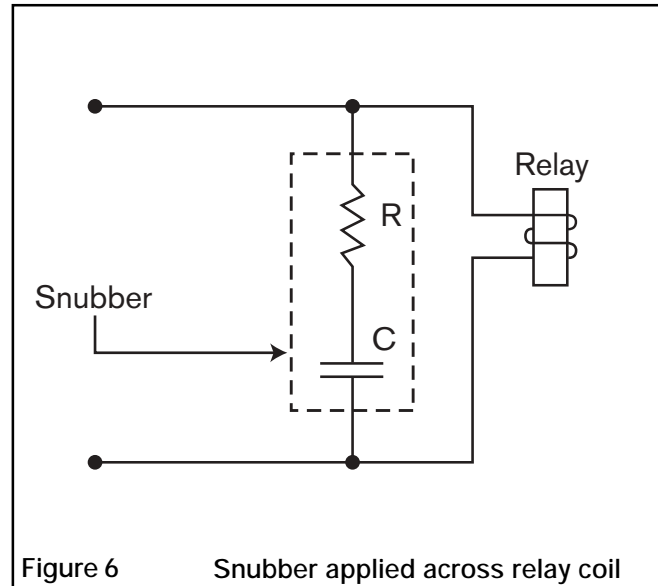

Figure 6 Snubber applied across relay coil
- Place a resistor-capacitor network (snubber) across inductive coils such as relays and solenoids in order to stop electrical interference at the source (See Figure 6).